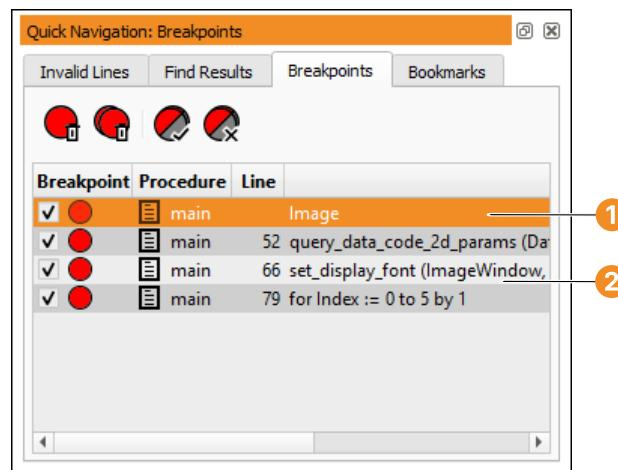

Figure 6.72: Managing breakpoints in the Quick Navigation window.
This tab card lists all variables or program lines marked with a breakpoint (see figure 6.72). Information about the breakpoints is given in the column **Context**: Breakpoints on variables ① list the variable name, while line-based breakpoints ② list the program line (its line number is given in the column **Line**).